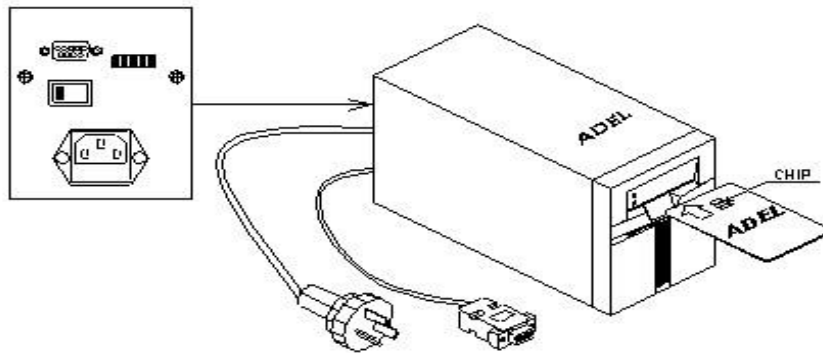

Figure 1-2
- a) Plug the data cable of the encoder in the 9-pin COM port in the computer. (See Figure 1-2)